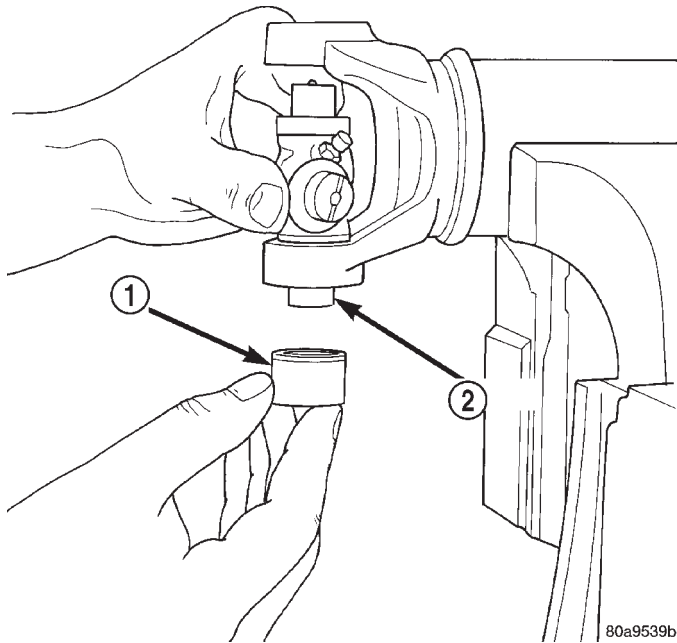

Fig. 22 Install Bearing On Trunnion
(3) Place a bearing cap over the trunnion and align the cap with the yoke bore (Fig. 22). Keep the needle bearings upright in the bearing assembly. A needle bearing lying at the bottom of the cap will prevent proper assembly.